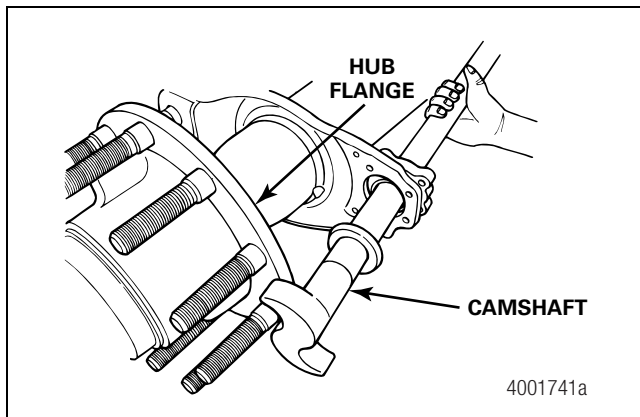

Figure 5.5
4. Move the camshaft head AWAY from the axle, so that the camshaft head clears the hub flange. Figure 5.5.